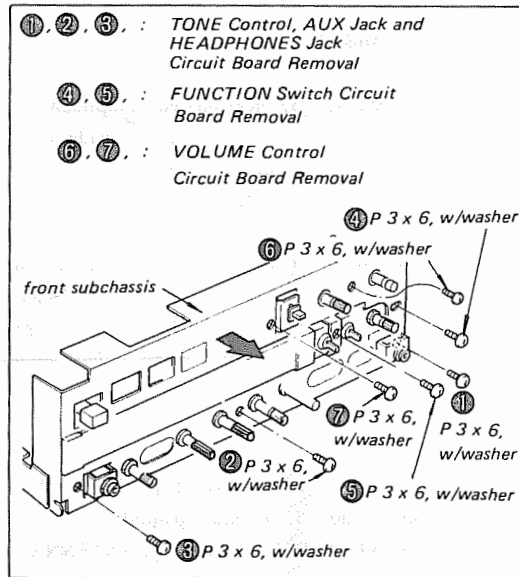

Fig. 2-5.
2. Remove three screws (⑪ - ⑬) as shown in Fig. 2-5.
2. Remove two screws (④, ⑤) as shown in Fig. 2-5.
2. Remove two screws (⑥, ⑦) as shown in Fig. 2-5.